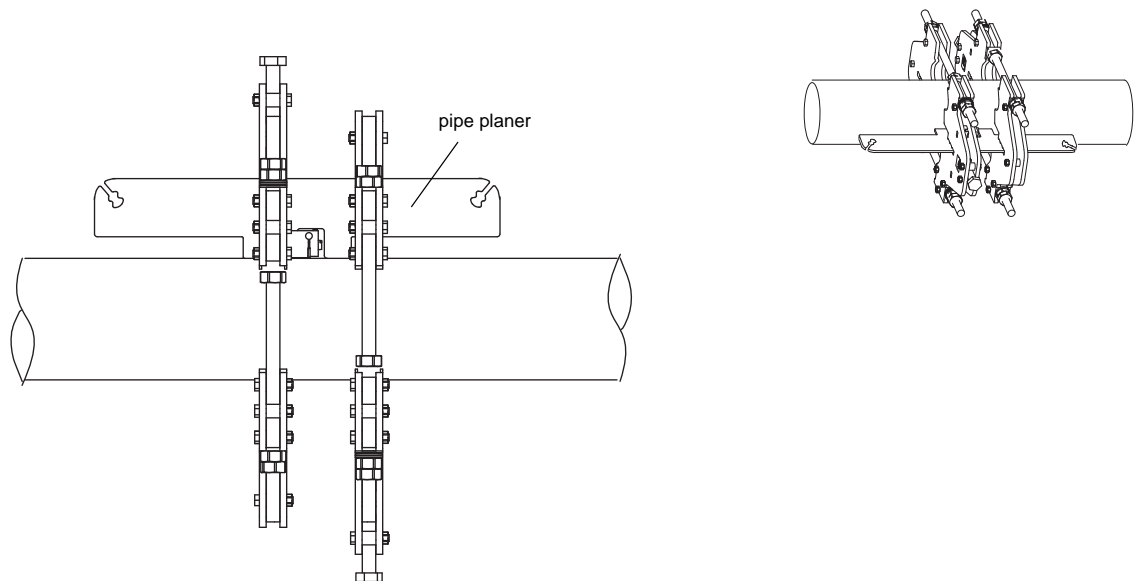

Fig. 3.4: Alignment of the coupling plate apertures of the two pipe mounting fixtures
- Align the coupling plate apertures of both pipe mounting fixtures with the help of the pipe planer. It must be possible to pass the pipe planer easily through the coupling plate apertures of the pipe mounting fixtures on both sides of the pipe (see Fig. 3.4).
- Align the coupling plate apertures of both pipe mounting fixtures. In reflection arrangement, use the pipe planer. It must be possible to pass the pipe planer easily through the coupling plate apertures of the pipe mounting fixtures (see Fig. 3.4).